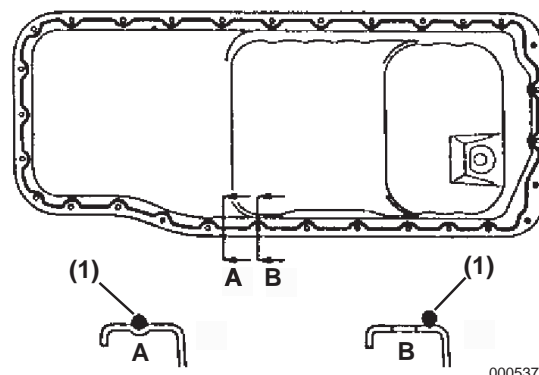

Figure 8-21
12. Apply new seal packing (TOYOTA P/N 08826-00080 or equivalent), to the oil pan using a 4 to 5 mm (0.157 to 0.196 in.) sealing width (**Figure 8-21, (1)**). **NOTICE:** All parts must be assembled within 5 minutes after the seal packing is applied, otherwise the seal packing must be removed and reapplied. Remove the nozzle from the tube immediately after use and protect it with a cap.